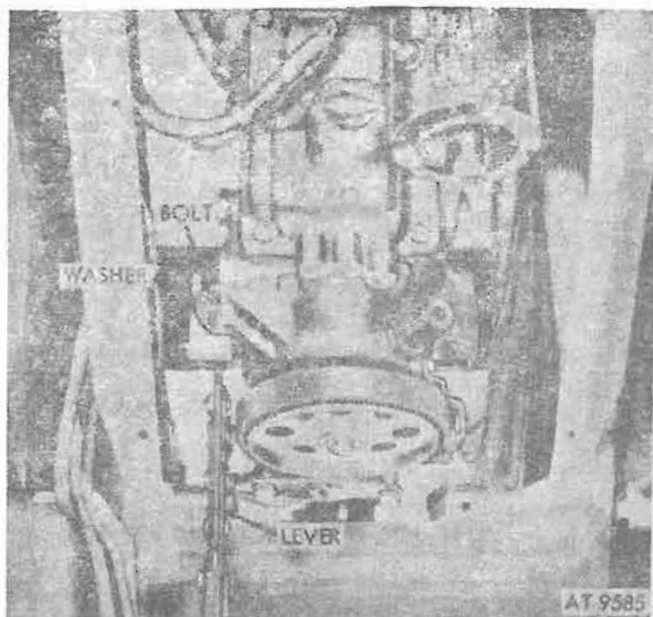

Figure 4-17. Rear support mounting bolts and washers.
(9) Drop lever forward and remove two rear support mounting bolts and washers (fig. 4-17).